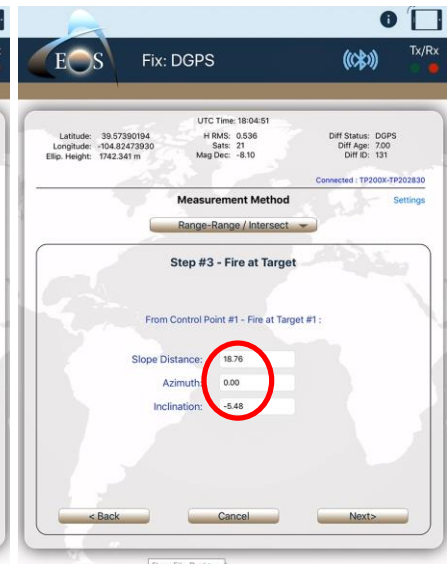

Figure 12A
- 12A. **Step #3:** Aim at the target, measure HD with the TruPulse 200X, confirm values for Slope Distance and Inclination come through (Figure 12A) and tap **Next**